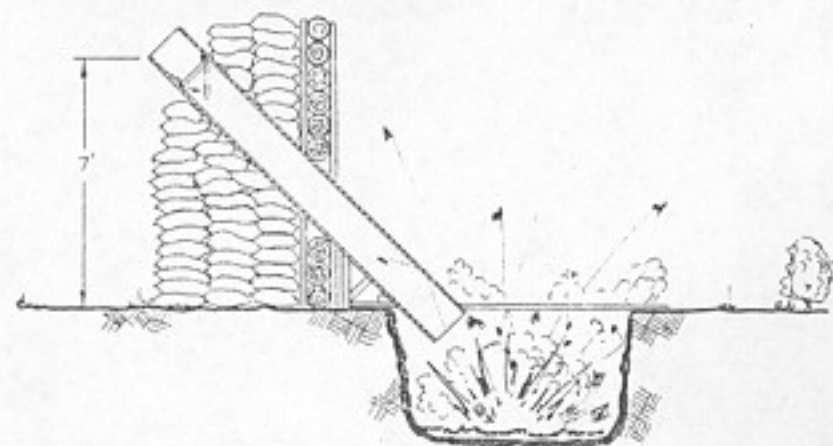

FIGURE 169. Small arms burning pit (basty).
17. Adequate improvised burning pits should be constructed within the area for disposal of small arms, pyrotechnics and like devices. (Figure 169)
other material suitable for containing the flying fragments. Vent holes must be provided for proper draft. If a burning pit cannot be constructed, a trench two feet deep and one foot wide may be used for an improvised burn pit. A burning pit diagram is shown in Figure 169.